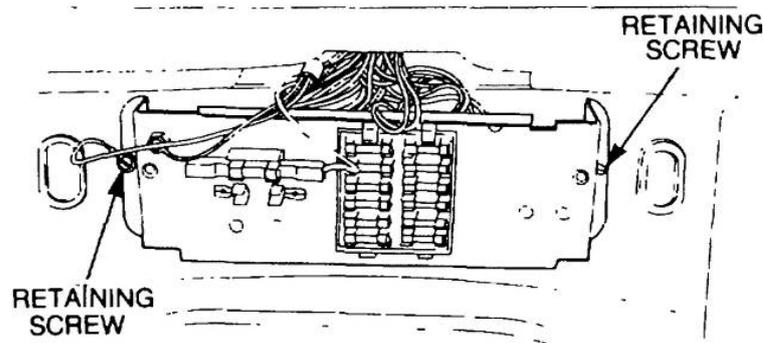

Figure 53 Removal of the Fuse Box
- f. Remove the fuse-box cover and the two screws securing the fuse-box to the firewall (Figure 53). Secure the fuse-box out of the way.